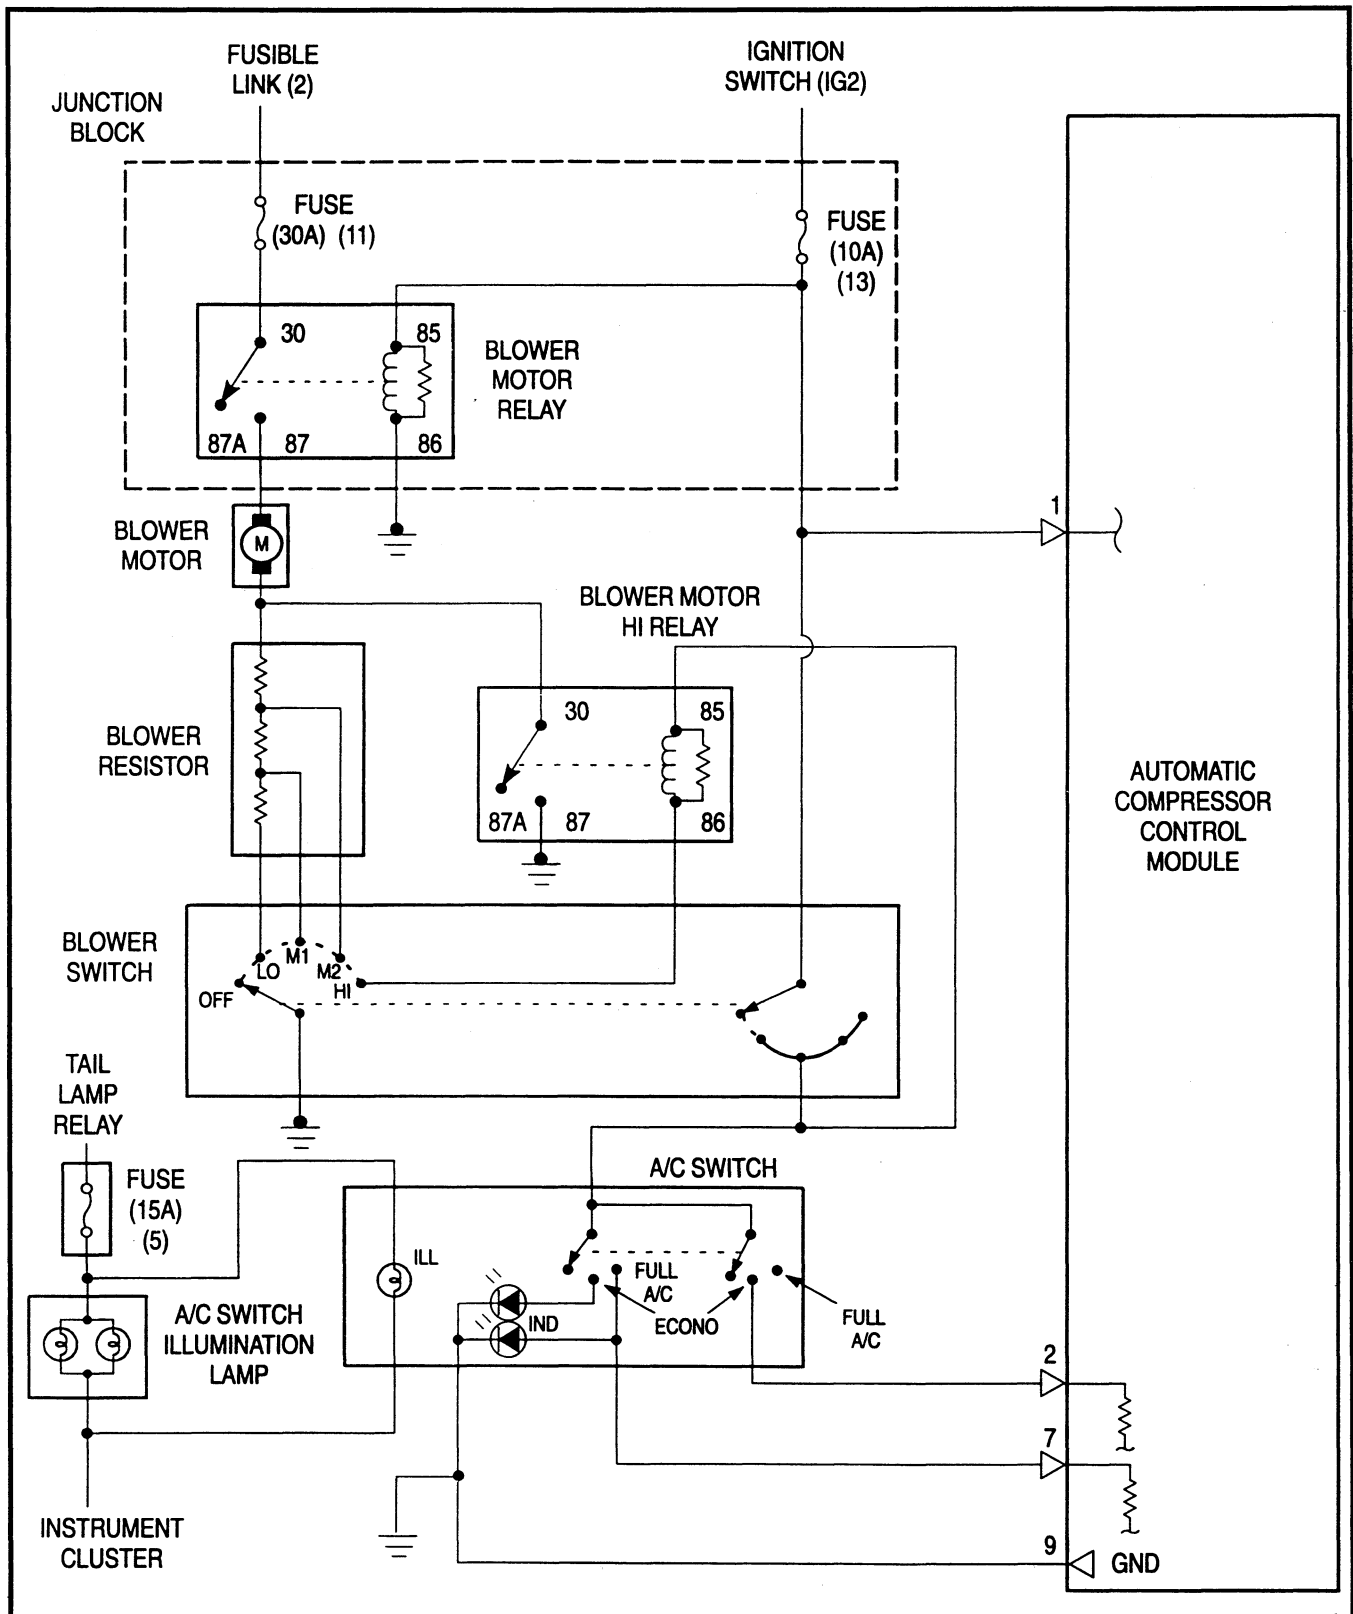

Figure 45 A/C Request Signal
The inputs for the auto compressor control module are as follows (fig. 45 and 46):
- **Power Supply and Ground** - Battery voltage is provided to the auto compressor control module through terminal one any time the ignition switch is in the run position and a ground is provided through terminal nine (fig.45).
- **A/C Switch** - The A/C switch is fed battery voltage anytime the blower switch signal is positioned in any of the four blower fan speeds (fig. 45). When ECONO is selected from the A/C switch, battery voltage is applied to terminal two of the auto compressor control module. When FULL A/C is selected, battery voltage is applied to terminal seven. These inputs are used by the auto compressor control module to initialize A/C operation.